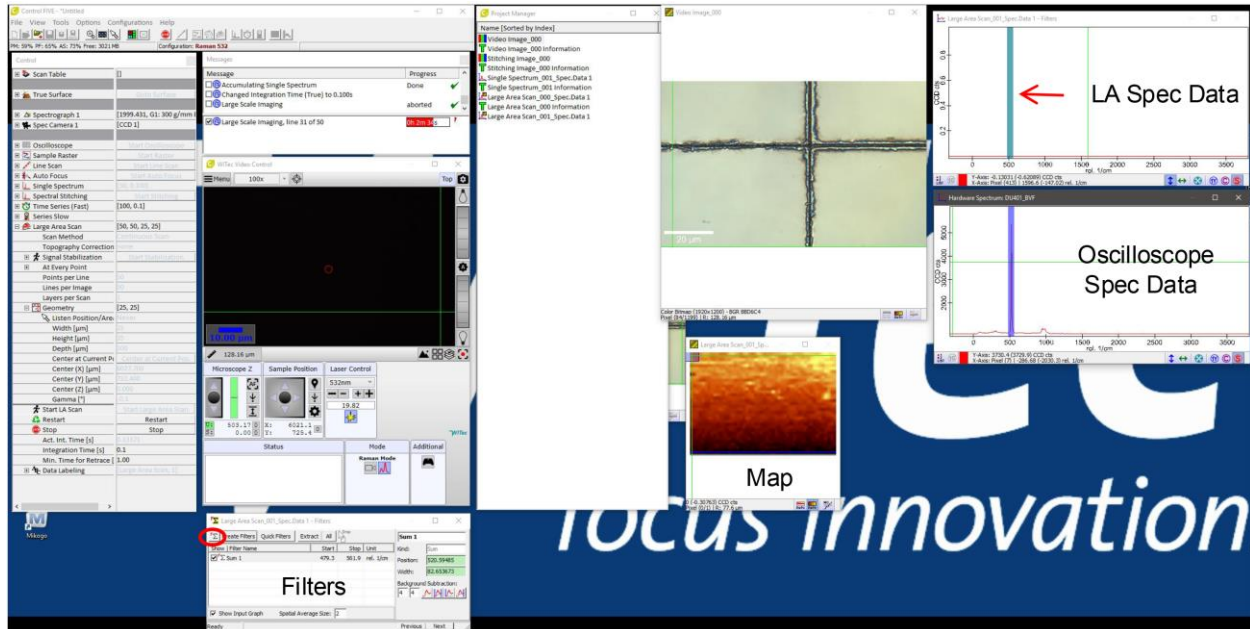

Figure 9
12) Once you are satisfied with all settings, click Start Large Area Scan to start data collection, three new windows (LA Spec Data, Oscilloscope Spec Data, Filters) will appear (Fig 9):
a) Filters window is used to add filter (red circle in Fig 9). Once a filter is added, the fourth new window (Map) will appear (Fig 9). This filter (vertical green and purple band in LA Spec Data and Oscilloscope Spec Data) aims to select characteristic peak for Raman mapping.
- 13) Data collection progress bar is shown in Message Window (Fig 9).